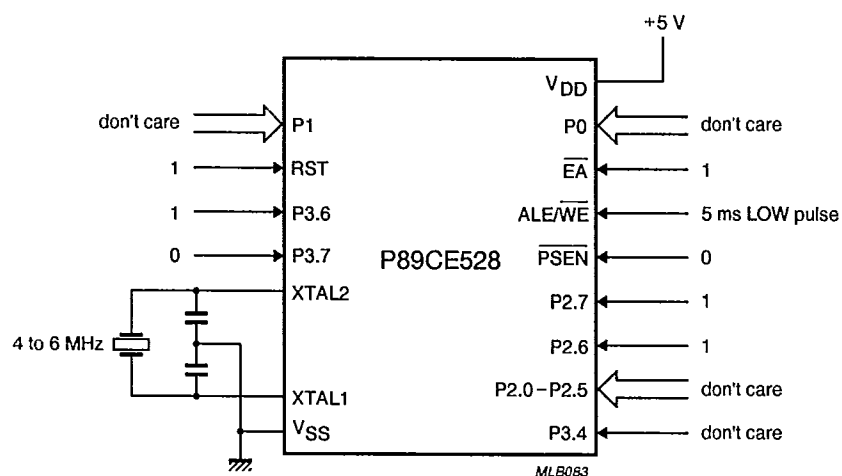

Fig.21 Erase configuration.
- (1) For erase conditions see Figure 21.